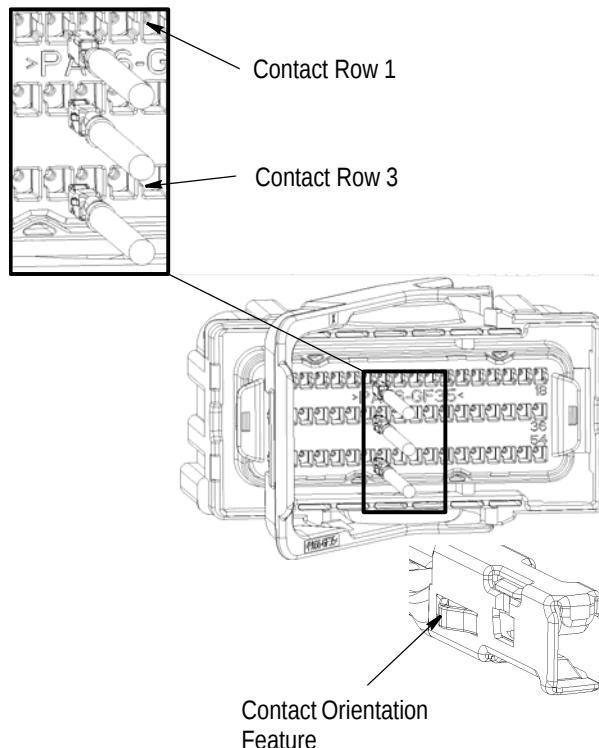

Figure 3
Contact orientation for circuit rows 2 and 3 are in the opposite orientation to contact row 1. See Figure 3.
2. If the wire should "buckle" prior to full insertion, pull the contact back out of the plug housing. Verify that orientation complies with Figure 3 and reinsert contact.
If the seal plug should stub or is difficult to insert, pull the seal plug back out and verify that the orientation complies with Figure 3, then reinsert seal plug.